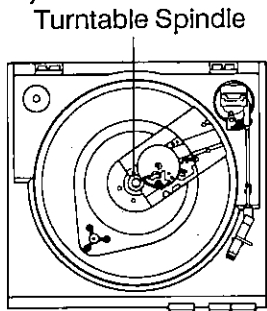

Fig. 16
3. Make sure that the drive belt of the turntable platter is not twisted, then slip the turntable platter over the turntable spindle (Fig. 16).